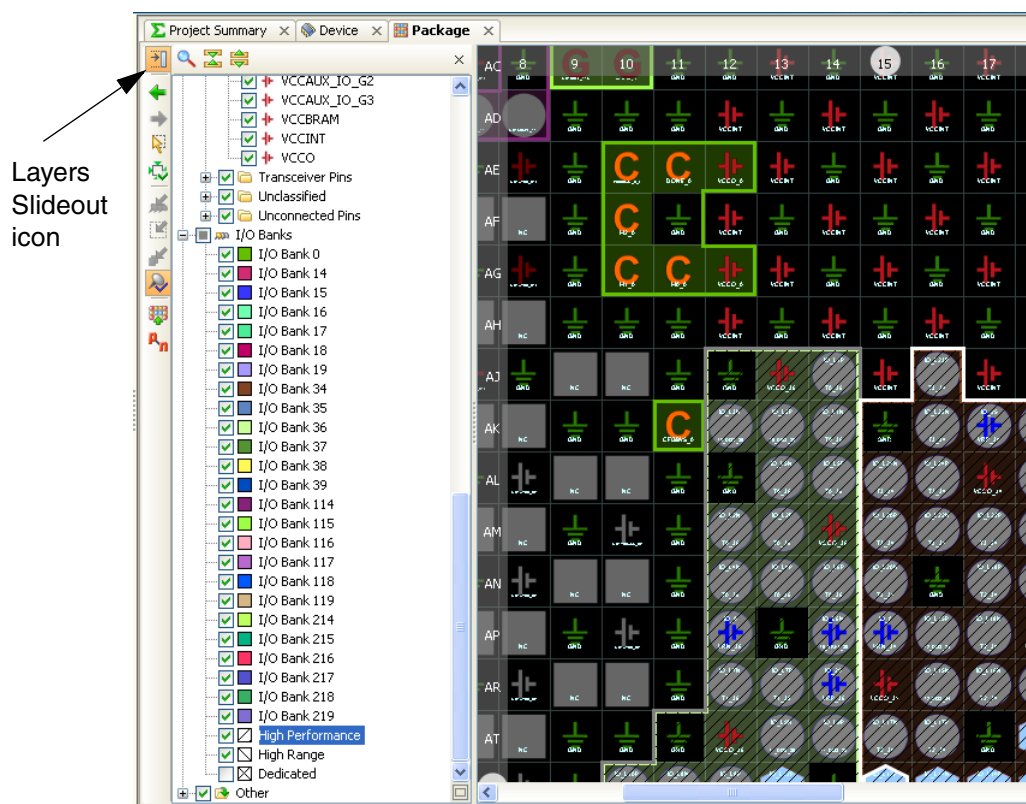

Figure 4-47: Package View Layers
- Figure 4-47 shows the Package View Layers command on the toolbar, and the Layers Slideout with various layers you can display or hide.